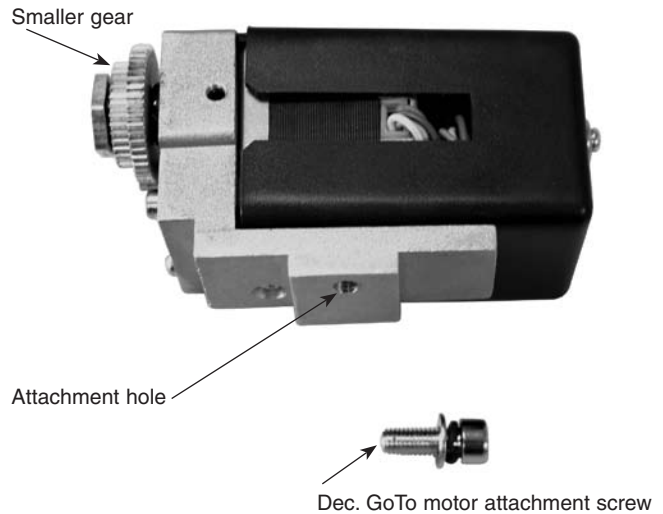
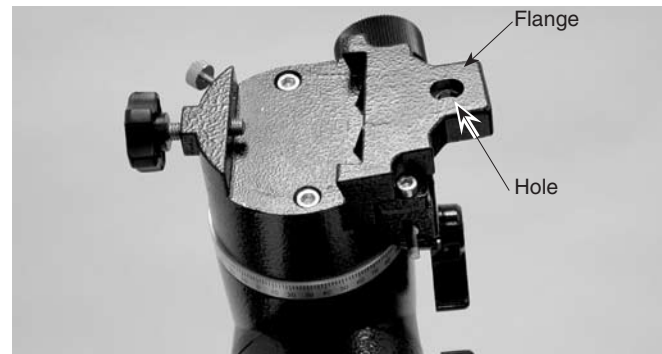
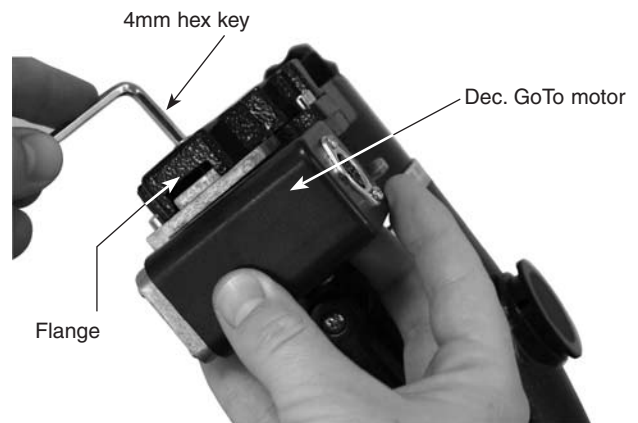

Figure 9. The Dec. GoTo motor assembly
Figure 10. The location of the flange on the mount
Figure 11. Attaching the Dec. GoTo motor
3. The Dec. GoTo motor assembly is identified by its black, rectangular body (Figure 9). It is attached to the equatorial mount using the Dec. GoTo motor attachment screw that goes through the hole in the flange at the top of the equatorial mount (Figure 10). The motor assembly should be attached so that it is oriented as shown in Figure 11. Hold the motor assembly so that its threaded hole lines up with the hole in the top of the mount. Place the lock washer and